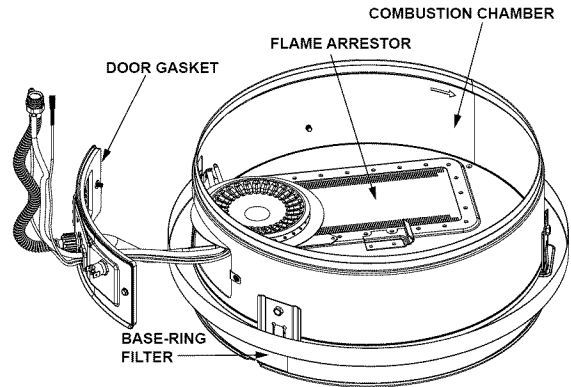

FIGURE 37.
1. At least annually, check the base-ring filter (Figure 37) for any dust or debris that may have accumulated on the filter screen. **NOTE:** If the water heater is located in an area that is subjected to lint and dirt, it may be necessary to check the base-ring filter more frequently.
2. Use a vacuum cleaner/shop vac to remove all loose debris in the combustion chamber (Figure 37). Use compressed air to clear any dust or debris that may have accumulated in the flame-arrestor.